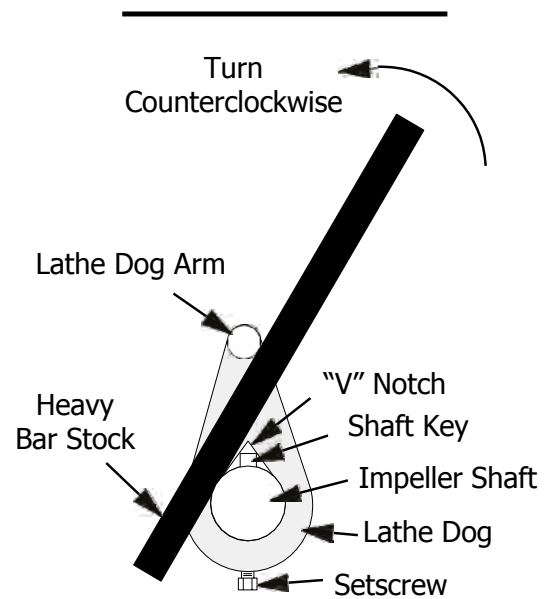

Figure 3. Loosening Impeller
With the impeller rotation still blocked, see Figure 3 and use a long piece of heavy bar stock to pry against the arm of the lathe dog in a counterclockwise direction (when facing the drive end of the shaft). Use caution not to damage the shaft or key- way. When the impeller breaks loose, remove the lathe dog, key and wood block.
*½" (12mm) square steel bar into the slot in the shaft as shown in Figure 3.*